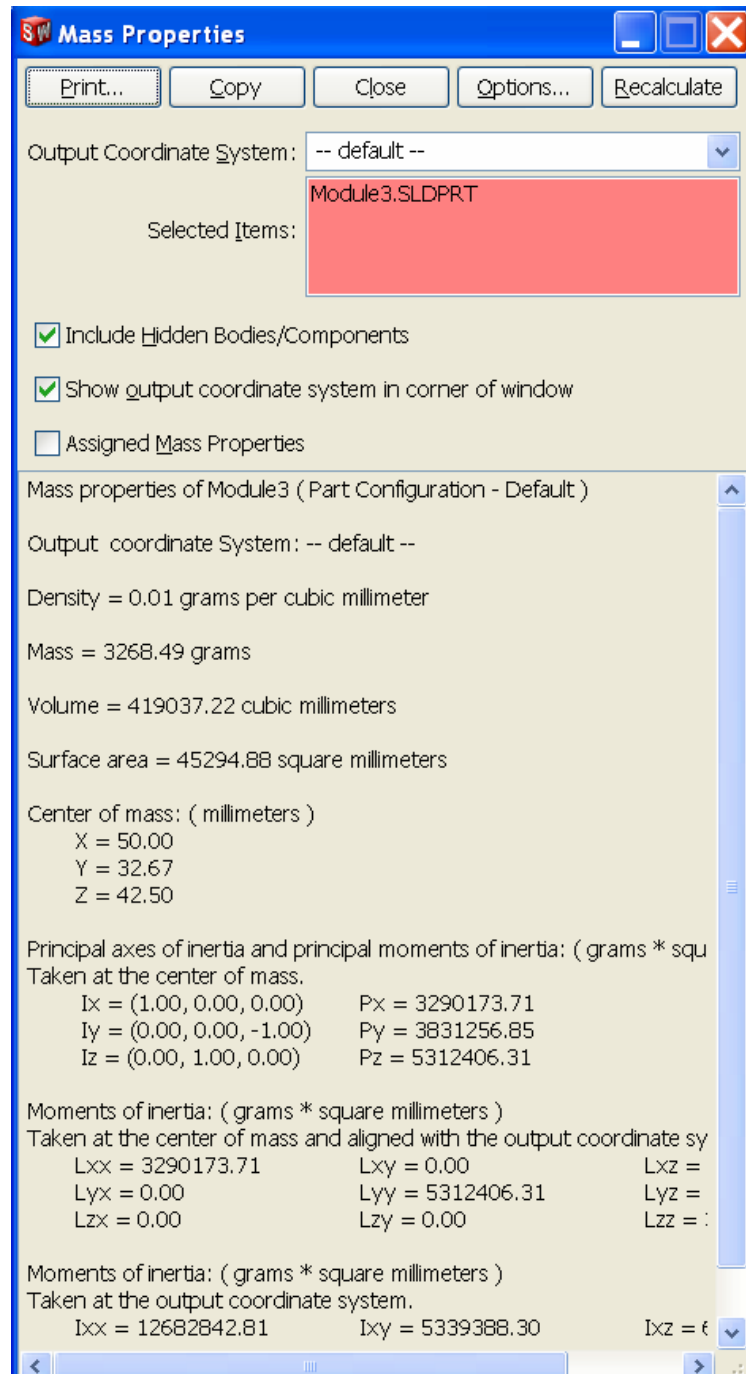

Figure 28 Mass Properties
- 2) The Mass Properties dialog box appears. The Measurement Options dialog box appears, and the mass properties are calculated automatically as in Figure 28. **Note:** in the dialog box, the mass density is displayed as 0.01 gram per cubic millimeter because the decimal places format is set as 2. It does not influence the mass properties.